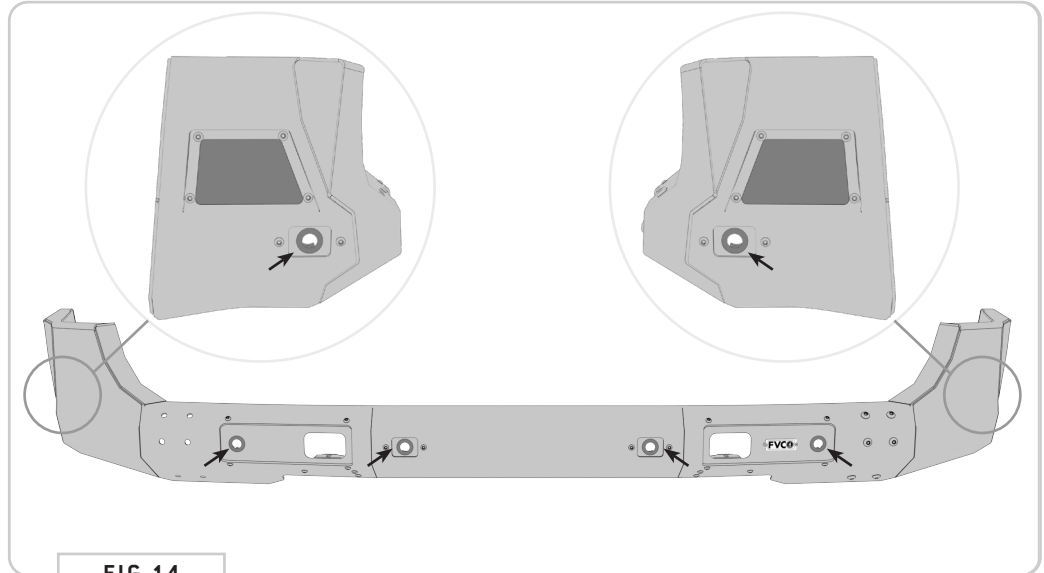

FIG 14
3.2 Install Park Sensor Bezels: Install the plastic **Park Sensor Bezels** to the locations shown in **FIG 16**. Install by aligning the notches in the **Park Sensor Bezel** to the cutouts in the **Bumper** (**FIG 14**).